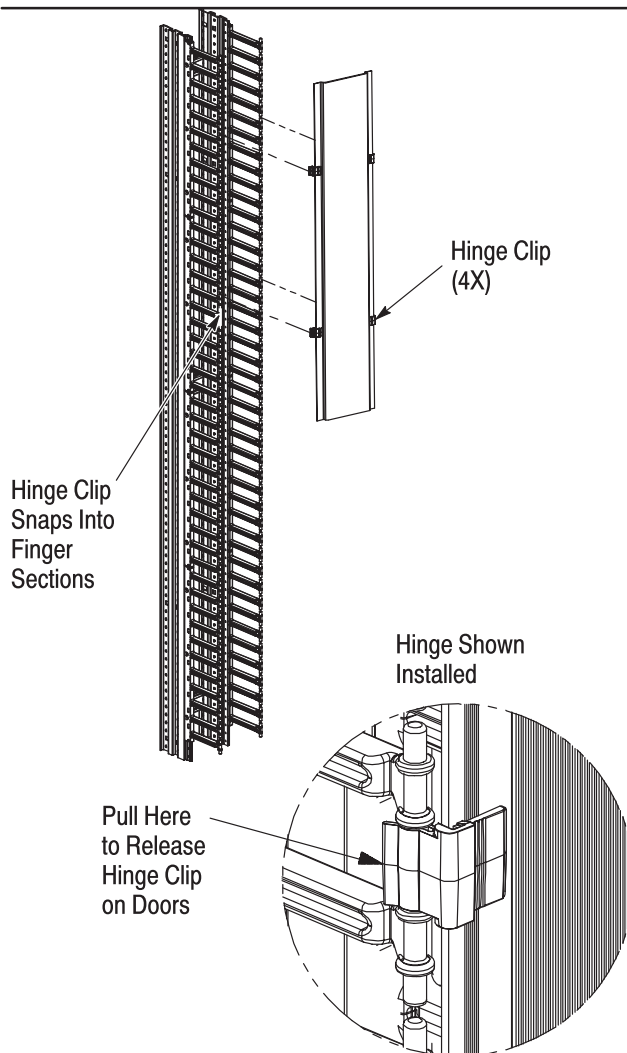

Figure 4
2. To install doors, hold door with one hand, and then press on one hinge clip at a time until all four hinge clips are secure. To open the door, pull out the back side of the hinge clips. See Figure 4.